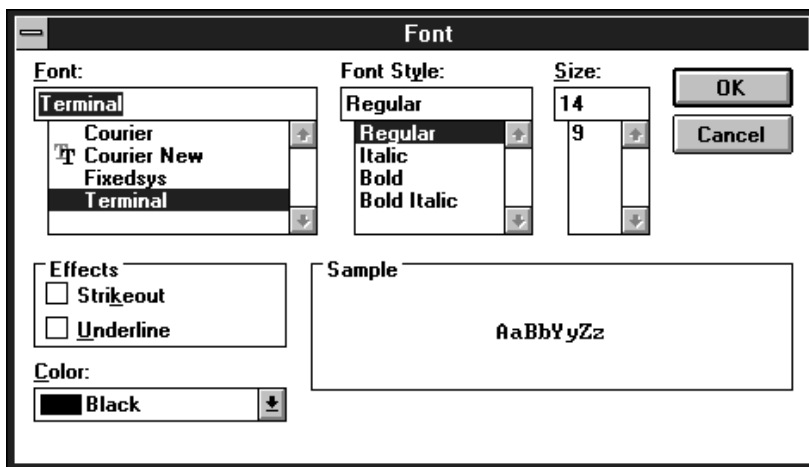

Figure 3.21 Screen Setting Box
2. Selecting Screen in the Setting menu displays the Screen Setting box (figure 3.21). The Screen Setting box can also be displayed by pressing (Alt) + S keys and then the S key.